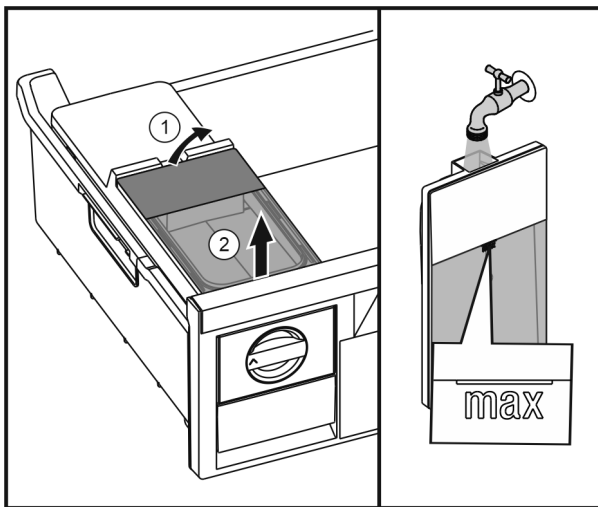

Fig. 31
- ▶ Lift up the water tank at the rear Fig. 31 (1) and take it out upwards Fig. 31 (2).